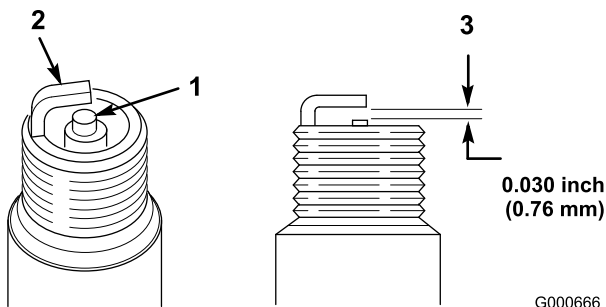

Figure 27
- Check the gap between the center and side electrodes (Figure 27) and bend the side electrode if the gap is not correct.
- Look at the center of the spark plug (Figure 27). If you see light brown or gray on the insulator, the engine is operating properly. A black coating on the insulator usually means that the air cleaner is dirty.